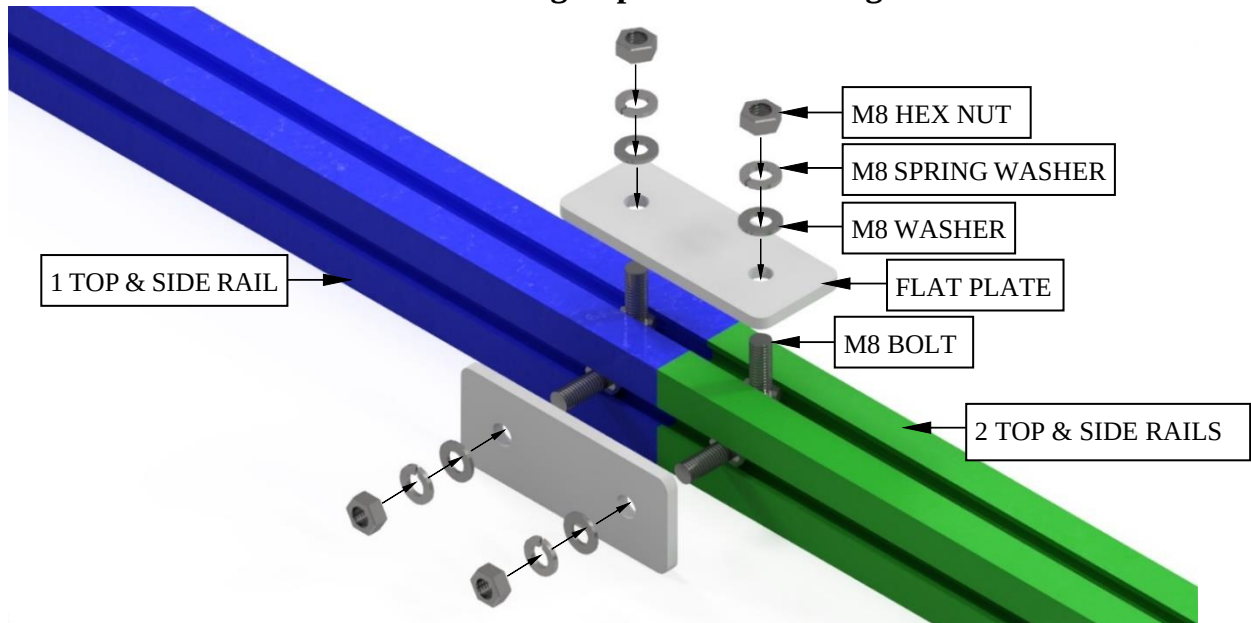

Figure 13: Flat Plate to Top & Side Rail Fixing.
- To connect two Top & Side rails, tighten a flat plate at 15 Nm torque in the configuration as seen in Figure 13. Ensure that the two rails are correctly aligned before tightening the nuts.